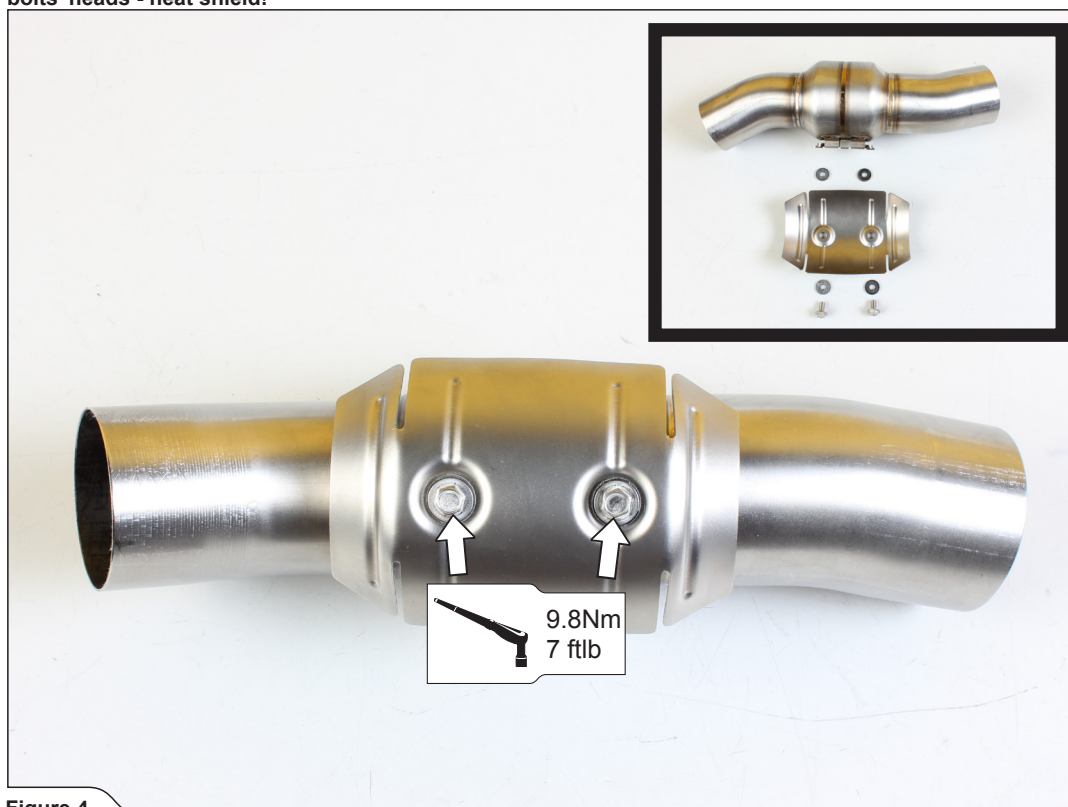

Figure 4
1. Assemble the heat shield onto the link pipe, using bolts and heat resistant washers from Akrapovič installation kit (**Figure 4**).